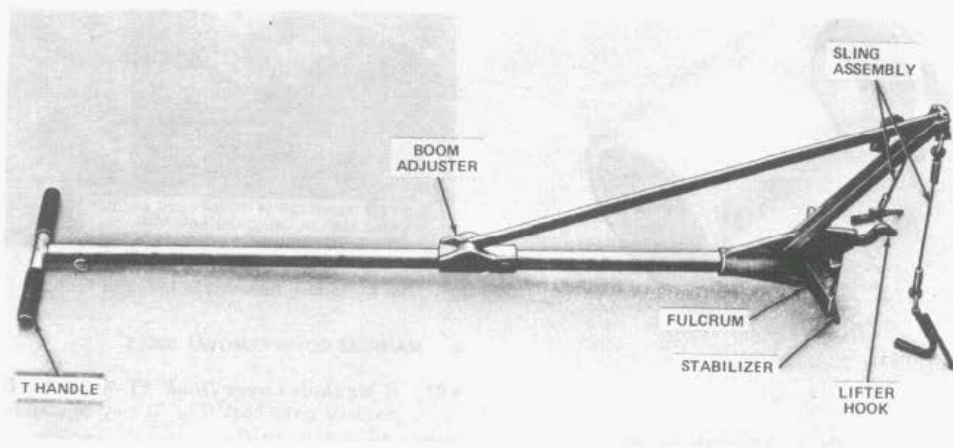

Fig. 7—C Manhole Cover Lifter
4.03 C Manhole Cover Lifter AT-8967: The C manhole cover lifter (Fig. 7) can be used to remove round manhole covers with hook holes in either the rim or lifter pockets. The C cover lifter can also be used to remove inner covers.